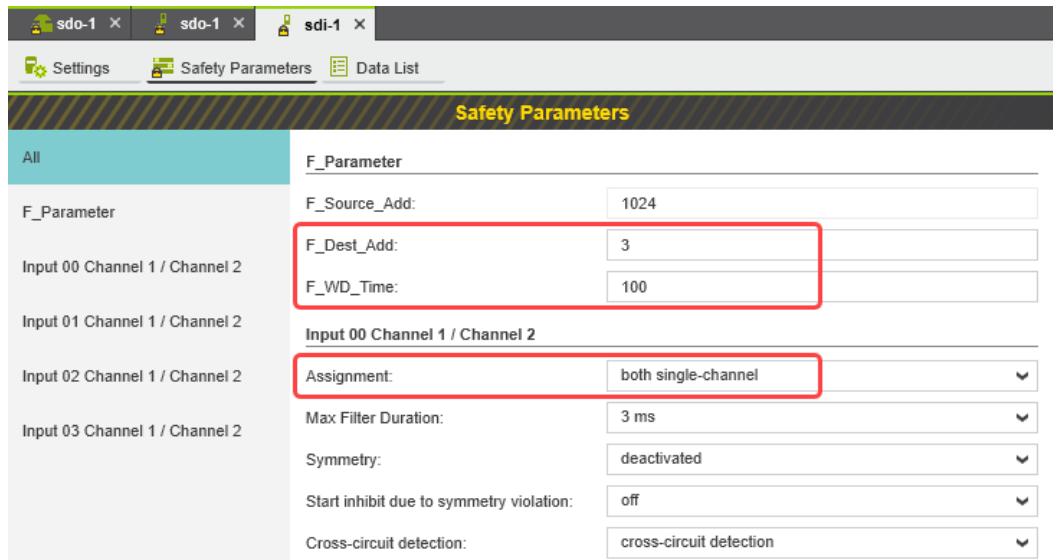

Figure 6-29 “Safety Parameters” editor: AXL SE PSDI8/3
- Under the “Profinet (x)” node in the “PLANT” area, double-click on the lower-level node of the safety module whose safety parameters you want to set (in the example in Figure 6-29: AXL SE PSDI8/3).